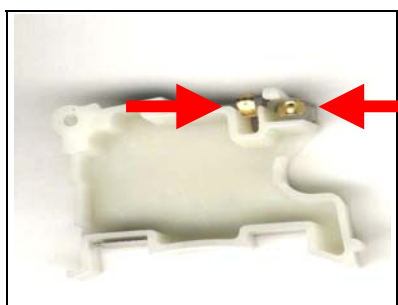

Fig. 2.1
- Check that the Antenna Units flex film is properly fitted and undamaged. (Fig2.1) Also check the Antenna Units connector pins. Replace the Antenna Unit if it's necessary. Also check the PCB pads, if necessary clean them.